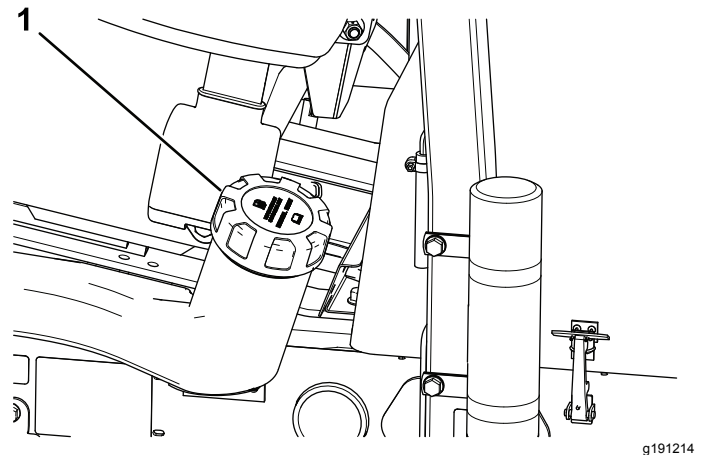

Figure 38
1. Clean the area around the fuel-tank cap (Figure 38).